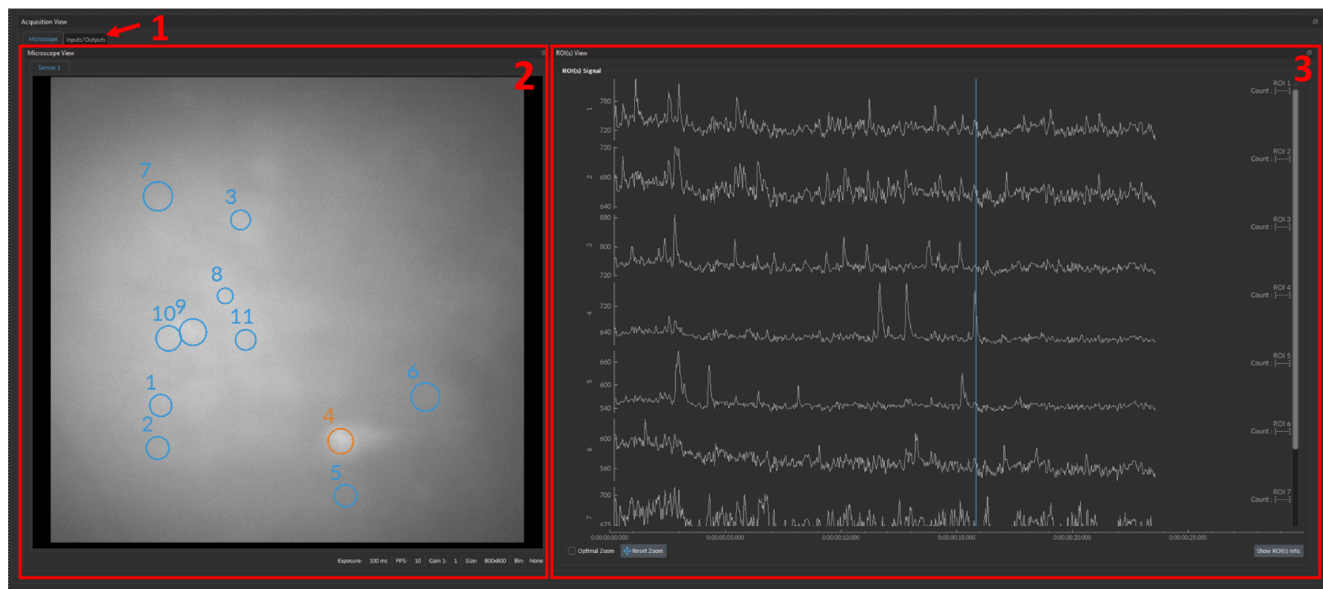

Figure 7.27: Acquisition View
The **Acquisition View** is split into three sections (Fig. 7.27):
1. The **Input / Output View** (Fig. 7.27, 1) - Section 7.5.1
2. The **Microscope View** (Fig. 7.27, 2) - Section 7.5.2.
3. The **ROI(s) View** (Fig. 7.27, 3) - Section 7.5.3.